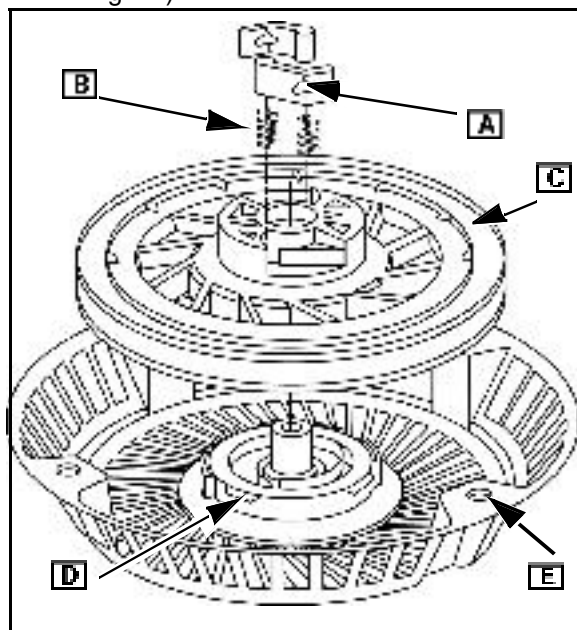

Fig. 12
10. Lift out pulley. The starter spring cup (D) will normally remain in starter housing (E) (Fig. 12).